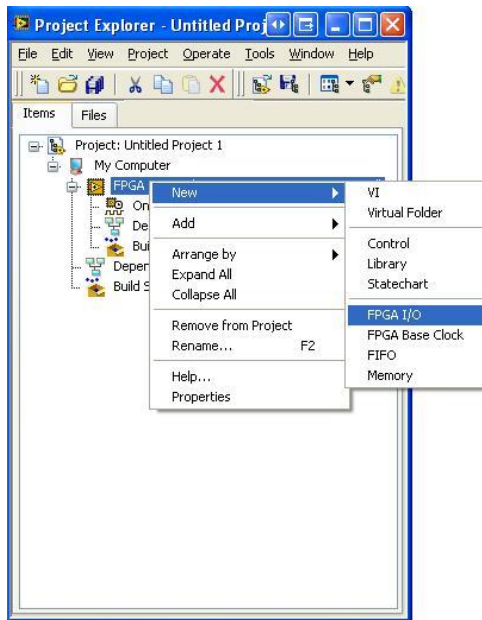

Figure 11: Create New FPGA I/O
1. To create FPGA I/O, right-click the name **FPGA target (Dev1, Spartan-3E Starter Board)** and select **New»FPGA I/O** as shown in Figure 11.